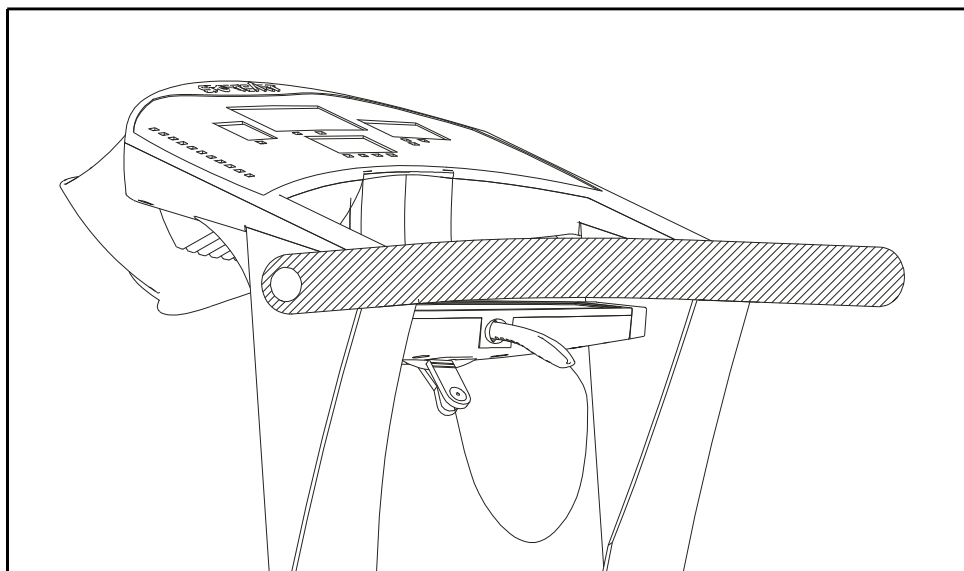

Fig.11
- A. Turn on the power switch located on the front of the treadmill, then the electronics will scroll through with the message "PLACE SAFETY KEY". The treadmill will not function without placing the safety key in its position (see Fig 11).